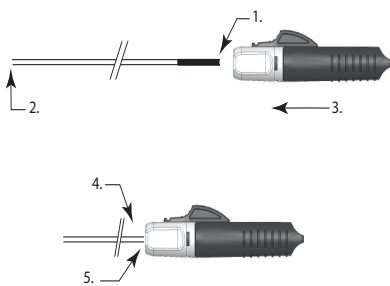
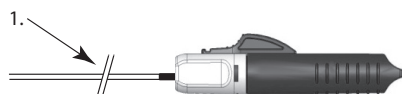

Figure 3
Figure 4
13. Hold the proximal end of the implant pusher at the distal end of the load indicator. Advance the Instant Detacher (I.D.) over the proximal end of the implant pusher until the load indicator fully enters the funnel and the pusher is firmly seated in the actuator (See Figure 3).
Note: If indicator band is still showing as in Figure 4 below, the Instant Detacher (I.D.) should be advanced further until the implant pusher is fully seated in the funnel as in Figure 3 above.